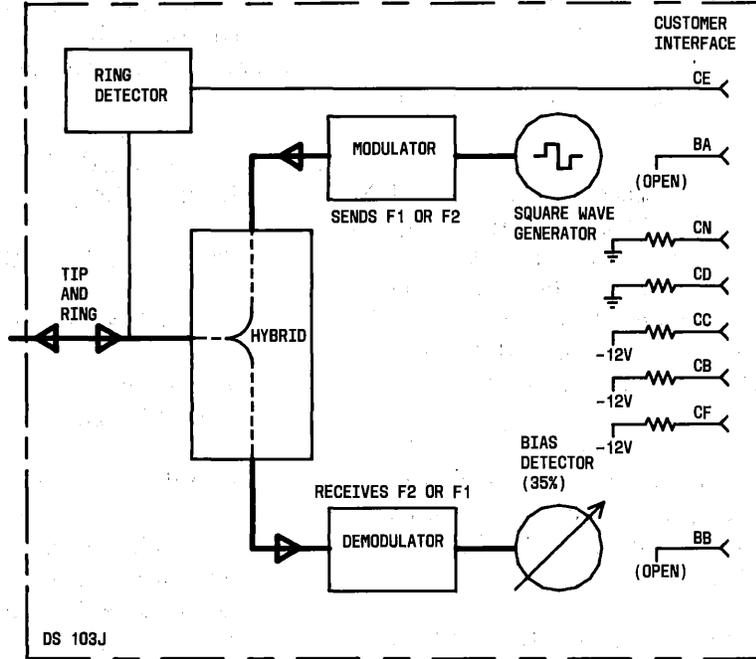

Fig. 2—Self Test Mode—Simplified Block Diagram
2.08 Depressing the ST button causes the following to occur (Fig. 2):
2.10 To perform an end-to-end self test (Fig. 2), a call is set up to another DS 100-type equipped with a self-test button. The ST buttons are operated at both ends, and the data mode is entered in the normal way. The test can be performed with or without a terminal connected to the data set. The following lamp pattern should occur: